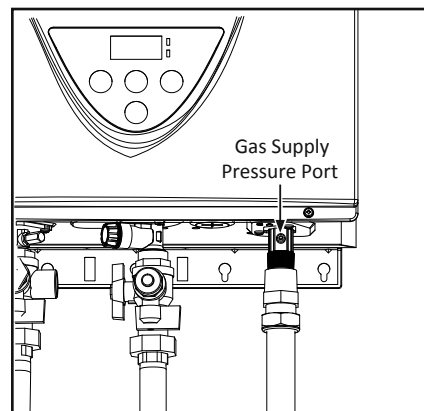

Figure 13.
3. Remove the screw for the pressure port located on the gas inlet. See Figure 13.